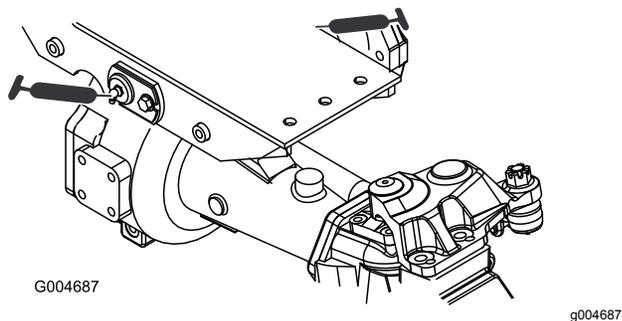

Figure 59
- 2 front and rear-axle-pivot bushings (Figure 59)